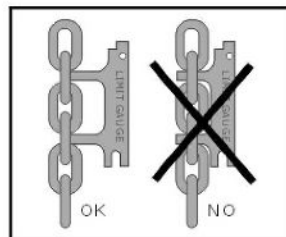

Fig .6.3 Measure inter nodal distance
- (1) It is convenient to measure with the chain gauge provided by the manufacturer.
- (2) As shown in Fig.6.3 and Fig.6.4, measure the chain inter-nodal distance and diameter with the chain gauge.